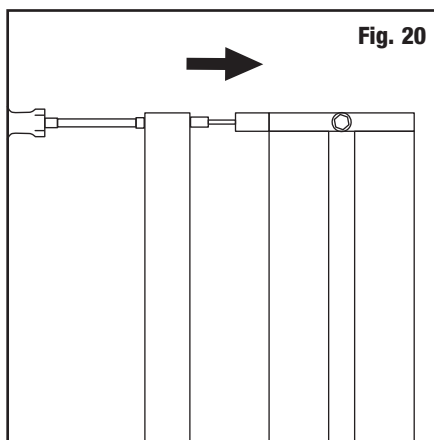

Fig. 20
3. Attach top mounting screw (Fig. 20).